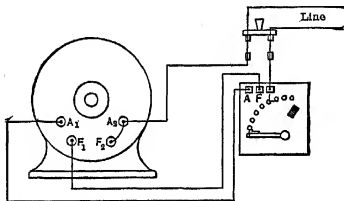

FIG. 220. Diagram of connections of shunt motor and three-point starting box.
Note in Fig. 220 how the same scheme is carried out. Point *L* on the box is joined directly to the line switch; point *F* is joined to  $F_1$  (field terminal); point *A* is joined to  $A_1$  (armature terminal). Then  $A_2$  and  $F_2$  (other field and armature terminals) are joined together and brought directly to the other side of the line switch.
**Prob. 18-9.** Draw the inside connections of the box in Fig. 220.